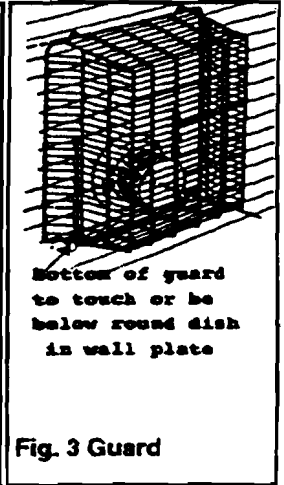

Fig. 3 Guard
- 3.2.9 **Warning:** If the outside vent terminal is located where it will be accessible to any person, a guard must be fitted over the terminal to prevent damage and to prevent it being touched. The vent terminal becomes very hot when the appliance is in use and can cause burns. A special guard designed for this appliance is available from your supplier - Ask for Valor part #235 (See figure 3).